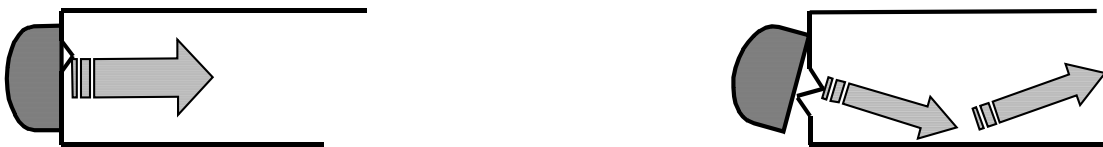

Figure 3 Effect of lowered and raised grade marks
- Bolt ends with recessed grade marks, as shown at left of Figure 3. Couplant can be used to fill recessed grade marks. Small indentations cause some loss of signal strength, but normal measurement is still possible. Large or numerous indentations cause the signal to be too weak for a reliable measurement.
- Bolt ends with raised grade marks, or indentations with a raised edge, which cause the transducer to be seated at an angle to the axis of the bolt, thus preventing adequate contact, as shown at right of Figure 3.